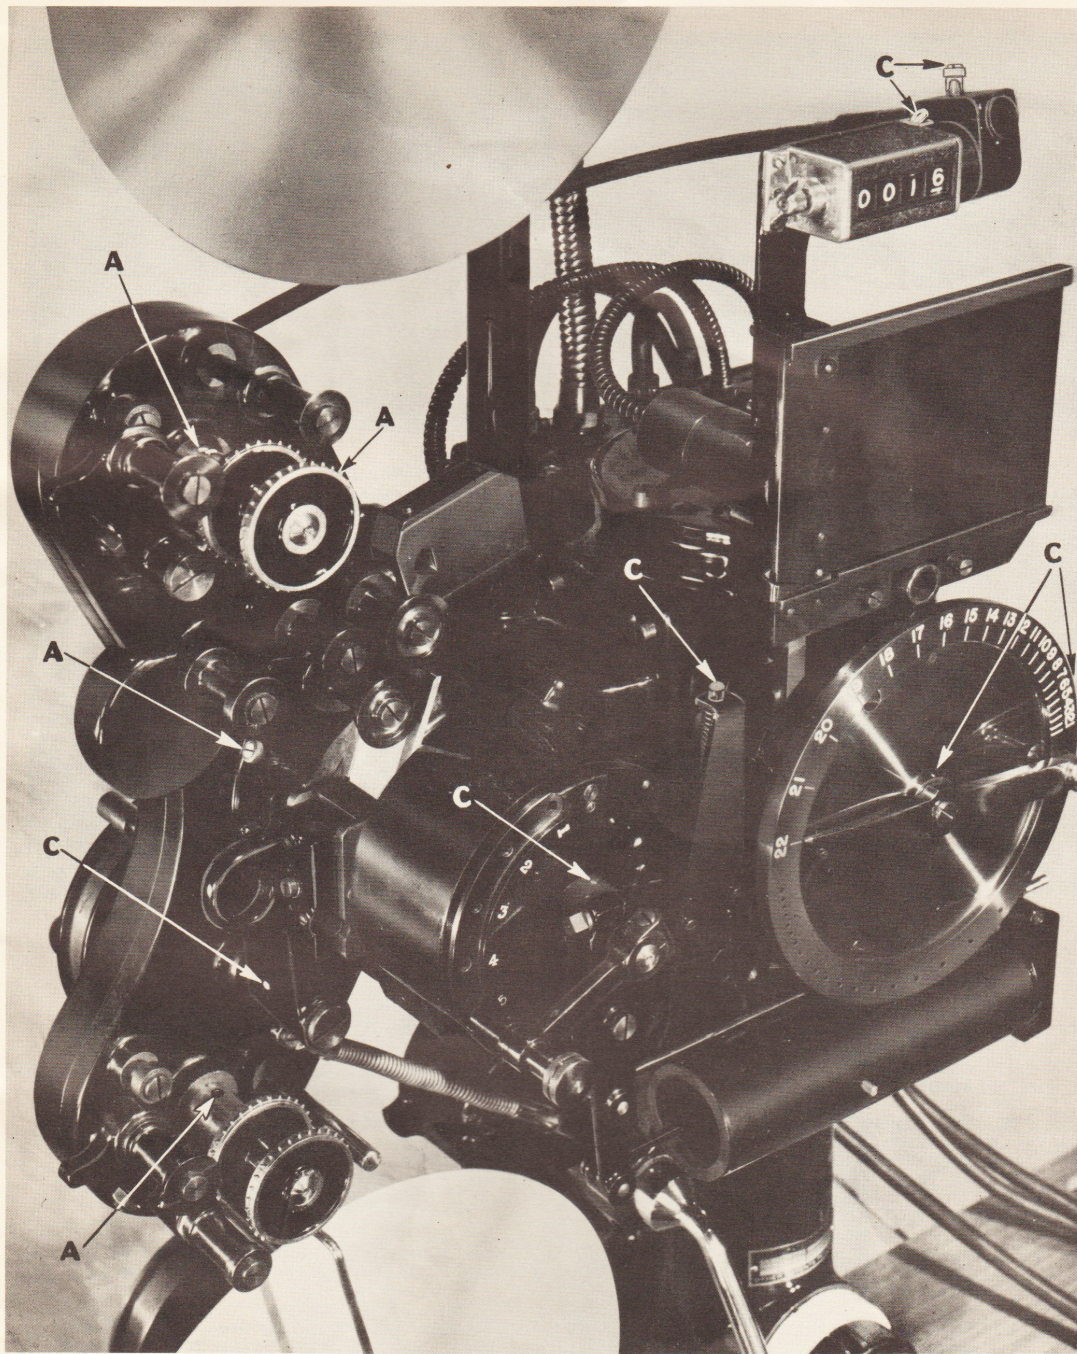

FIGURE 8 - LUBRICATION POINTS.
1. Figures 8 and 9 A, B, C, D, E clearly indicate the points to be lubricated, and the following chart gives the necessary information:
3. *The film rollers shown in figure 8 should be removed from the studs on which they revolve, thoroughly cleaned, and both the shafts and inner bearing surface re-oiled. These rollers must revolve absolutely free.